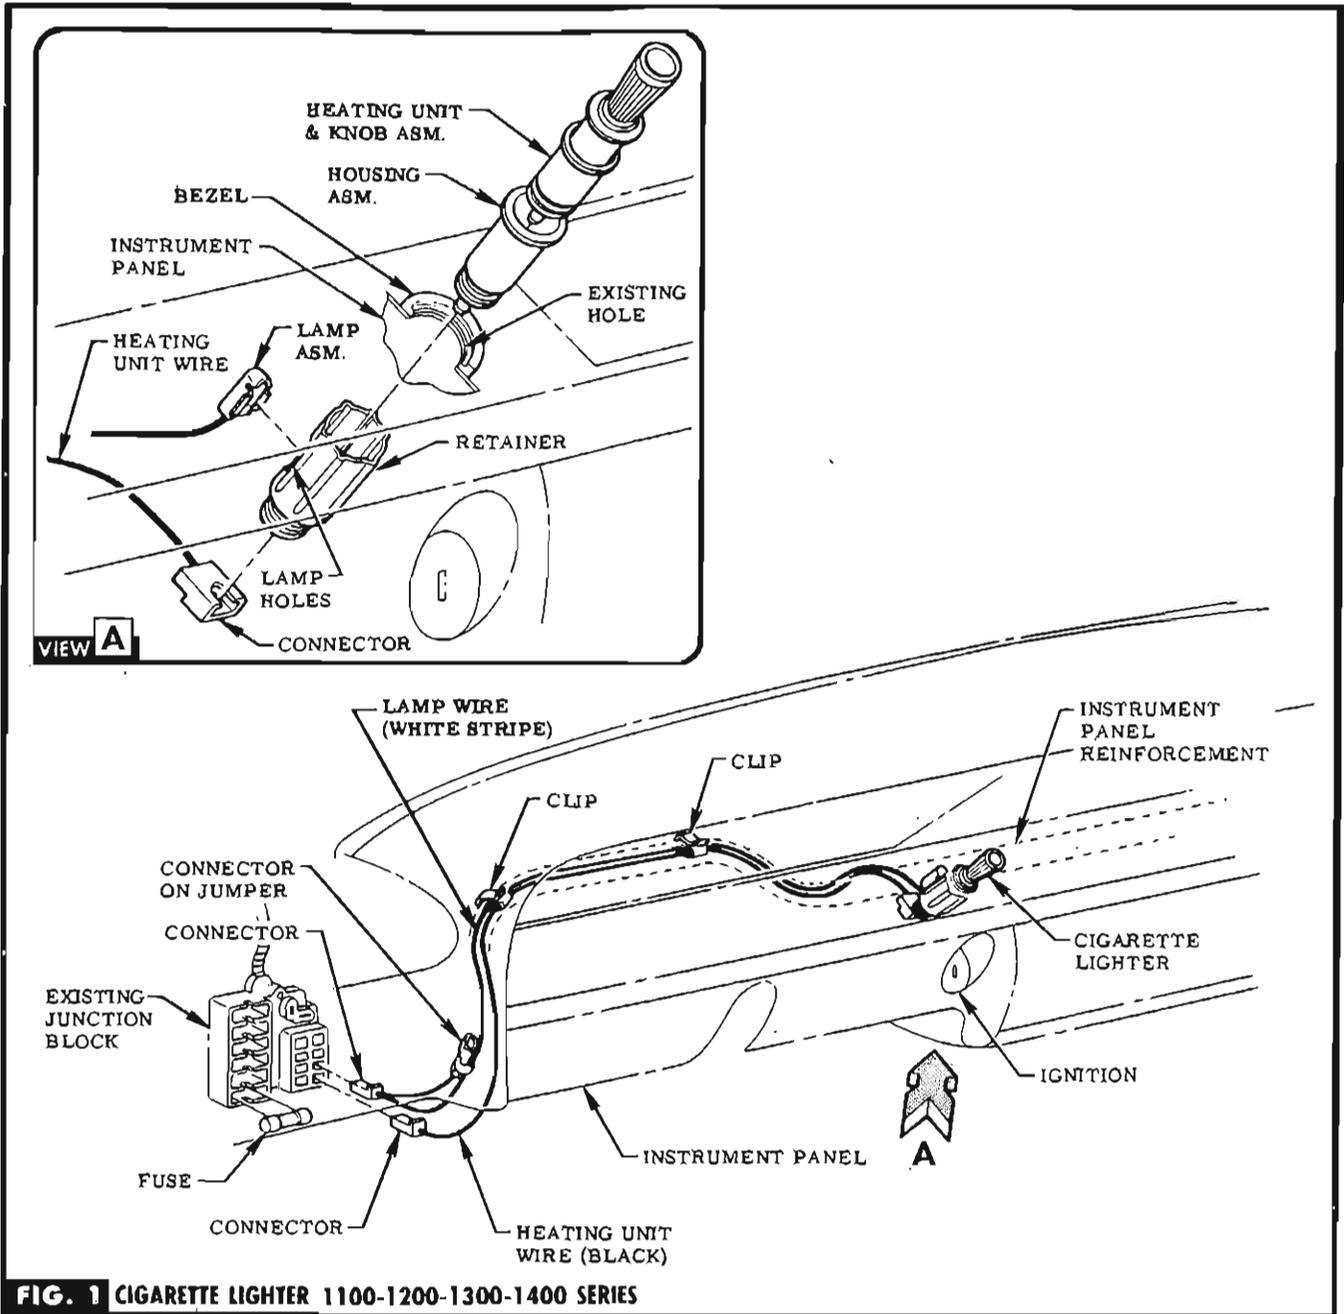

FIG. 1 CIGARETTE LIGHTER 1100-1200-1300-1400 SERIES
STEP 2 POSITION BEZEL & INSERT HOUSING INTO EXISTING HOLE IN INSTRUMENT PANEL. SEE FIG. 1 & VIEW A.